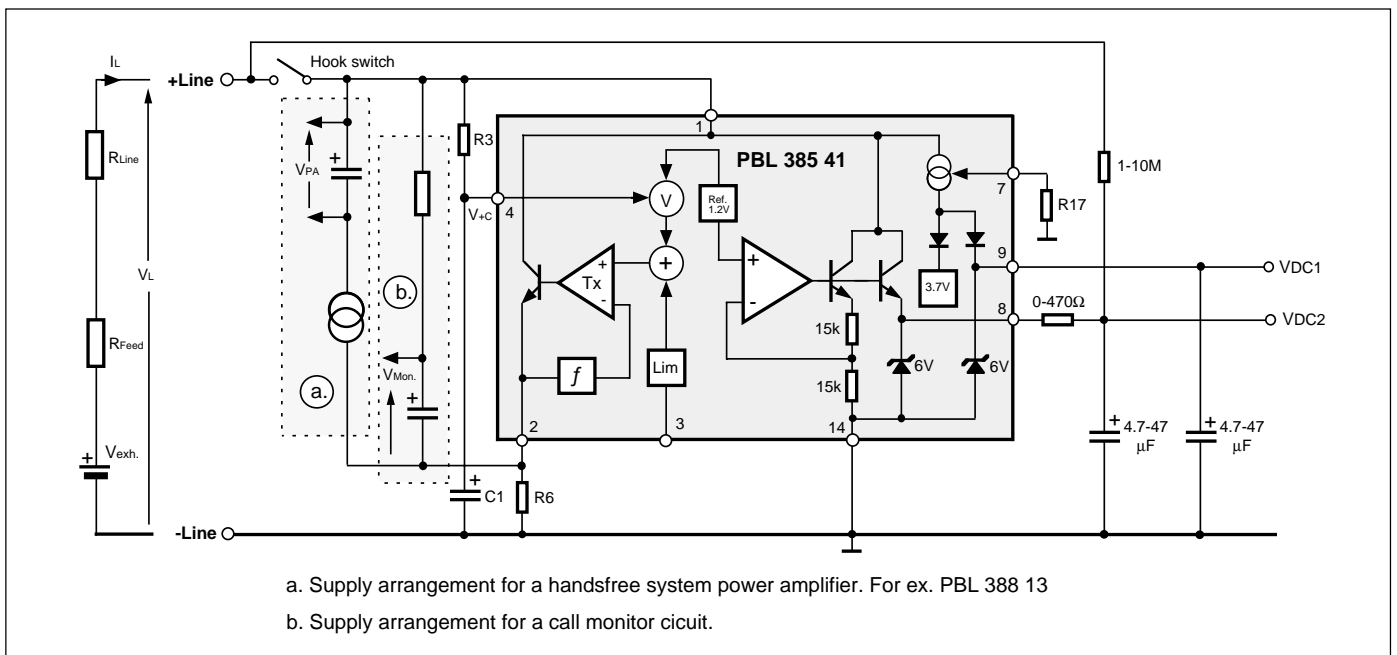

Figure 18. DC - supply system for external loads.
**Power supplies DC1, DC2, V+C and VPA** (See fig.18)
The fourth DC-supply VPA has an advantage that it does not influence the circuits DC characteristics even at high current drain. The supply has a floating ground reference in the +line in order to minimize RFI problems and is used to supply the power amplifier of a handsfree telephone ( PBL3881, 38813 ). These circuits have a current controlled charging of the supply capacitor and the control signal is taken across the resistor  $R_6$ . In case a monitor amplifier is required where the ground reference is hardly necessary, it can be supplied from VPA or like in alt. b in fig. 18.